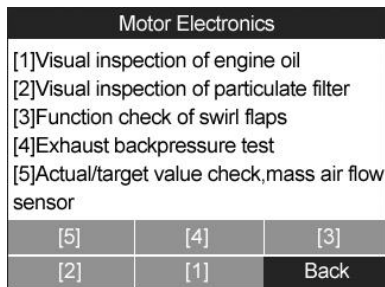

Figure 11.29
- a) From the particle filter test menu (Figure 11.29) use the **LEFT/RIGHT** scroll button to select **【1】** and press the **OK** button.
- a) From the particle filter test menu (Figure 11.29) use the **LEFT/RIGHT** scroll button to select **【2】** and press the **OK** button.
- a) From the particle filter test menu (Figure 11.29) use the **LEFT/RIGHT** scroll button to select **【3】** and press the **OK** button.
- a) From the particle filter test menu (Figure 11.29) use the **LEFT/RIGHT** scroll button to select **[4]** and press the **OK** button.
- a) From the particle filter test menu (Figure 11.29) use the **LEFT/RIGHT** scroll button to select **【5】** and press the **OK** button.